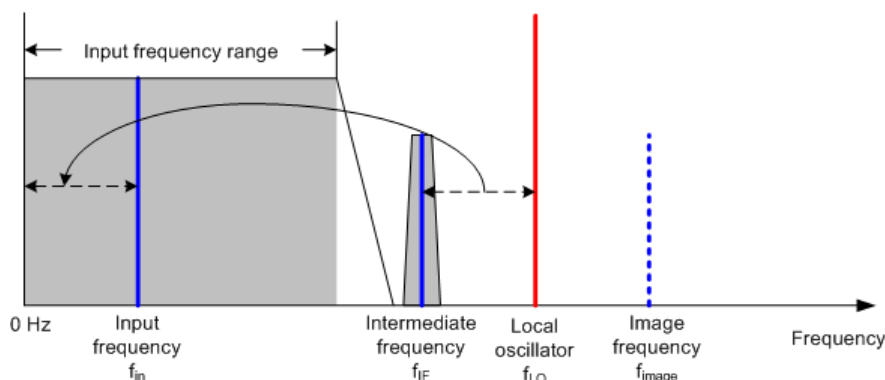

Figure 10-3: Mixing process
The mixer converts the RF signal to a fixed intermediate frequency (IF). This process usually involves several stages. It lasts until you get an IF for which good narrowband filters are available. The R&S FSH needs three mixing stages to get an IF that the filter can handle. Figure 10-3 graphically shows the mixing process.